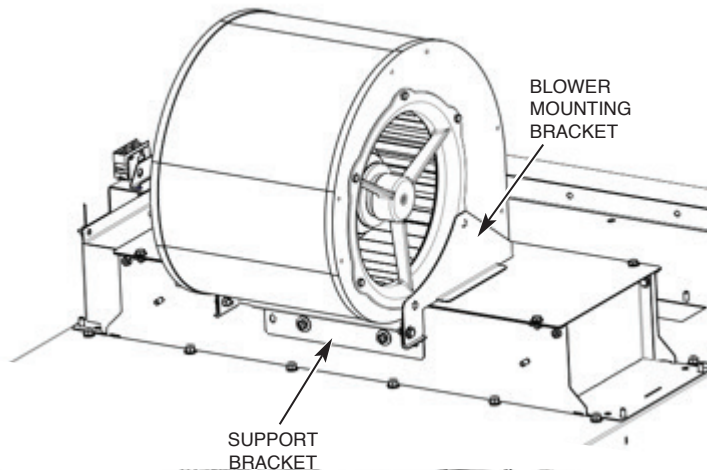

Fig. 26
3. Lower the back side of the blower assembly down so that the holes in the blower mounting brackets line up with the holes in the support brackets on the heater housing (Fig. 26).
4. Install 1/4-20 hex head cap screws with washers and stop nuts as shown in Fig. 26 and tighten.